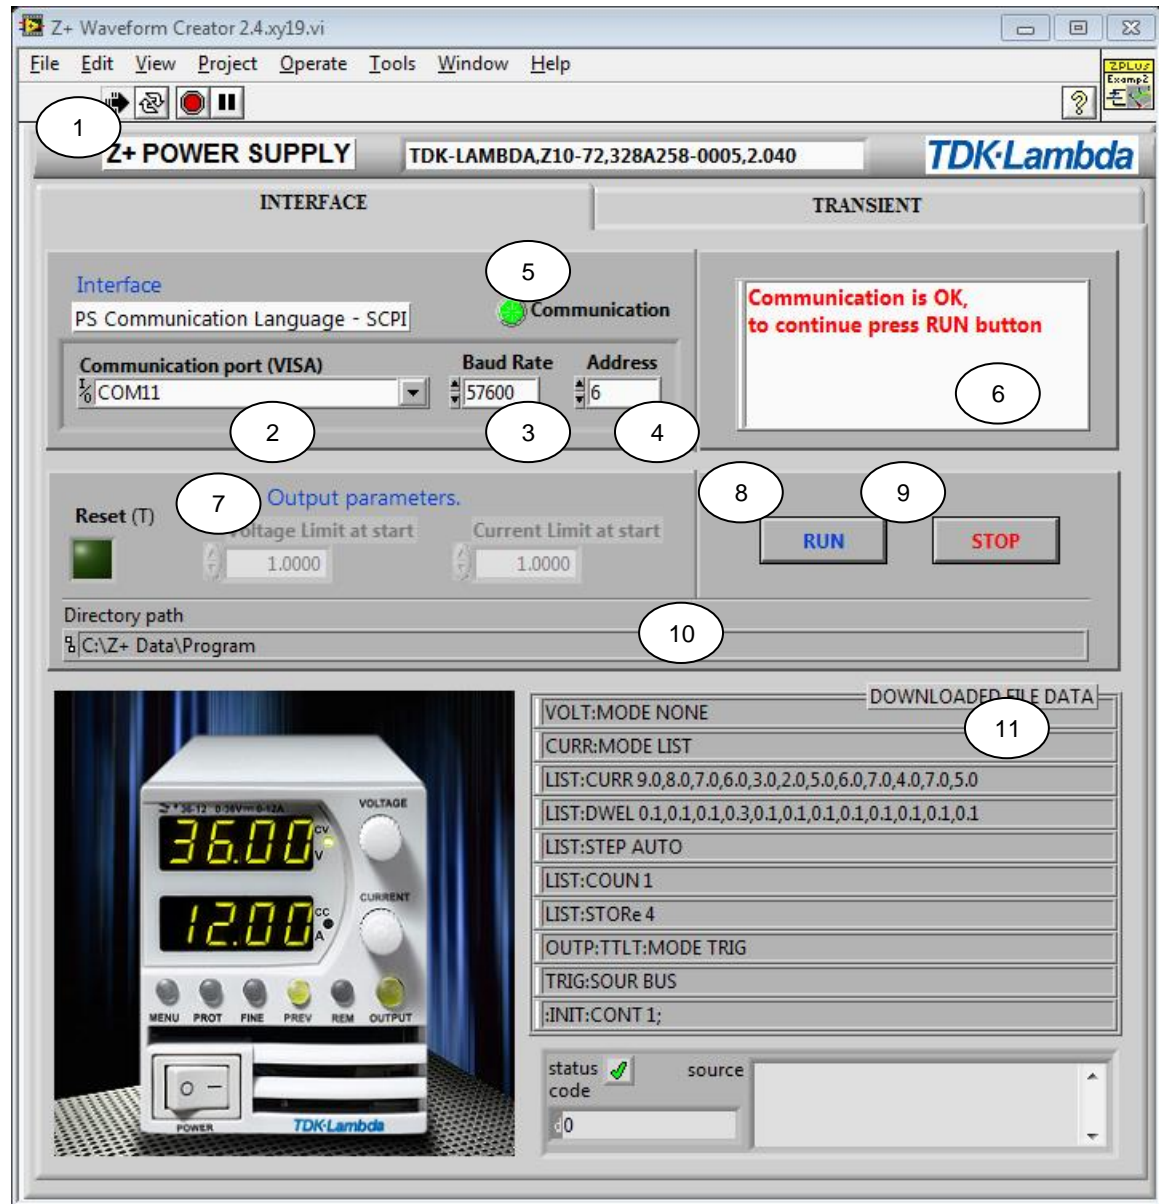

Fig 14
2. Press **RUN** button (1) to run application. Refer to Fig 14
- a. Port (VISA - COM port for RS232/485 and USB), GPIB::x::INSTR for GPIB (2). and TCPIP::x::INSTR for LAN (Refer to chapter E). Select "Refresh" to update connection.
- b. Baud Rate for RS232/485 and USB (3)
- d. Unit Address (4)